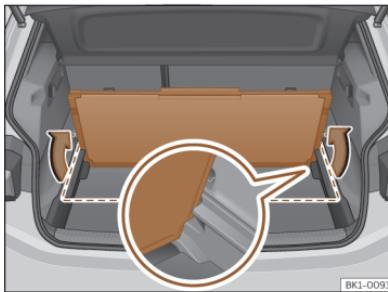

Fig. 172 In the luggage compartment:
- Once folded, lift it up and insert it into the side brackets, with the open side facing downwards >>> **Fig. 172** (enlarged image).